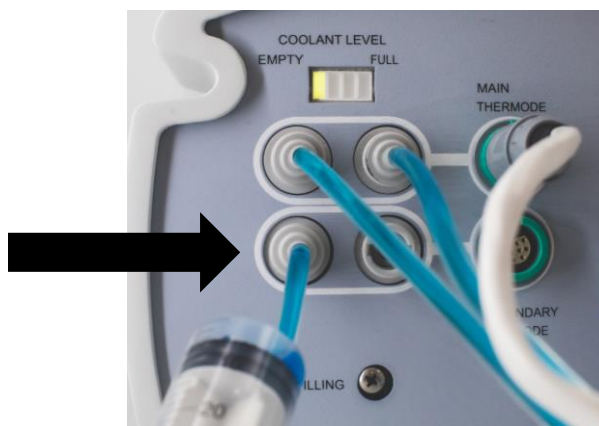

Figure 11: Connecting the syringe to the system
**The Main Thermode should be connected, and the system should be turned ON** (see figure 11).